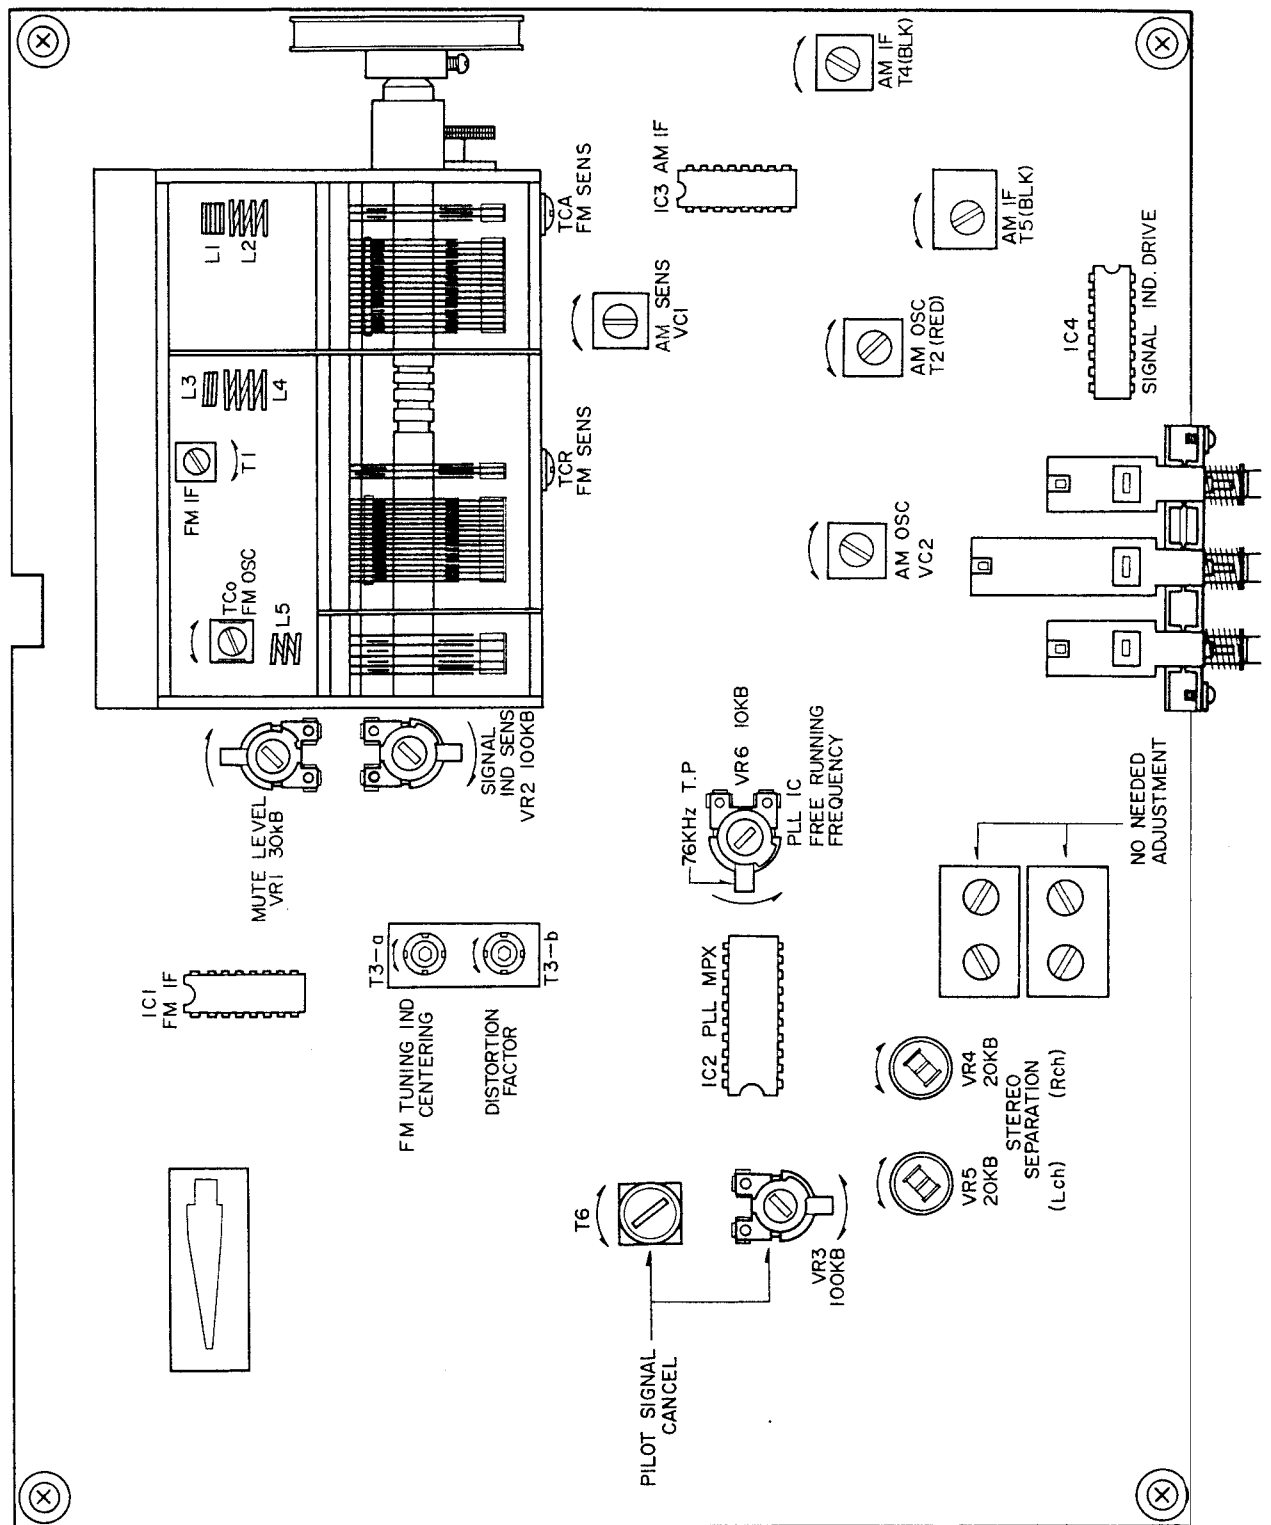

Fig. 5 Tuner P.C Board ATK-2001A
1. FM TUNER SECTION ADJUSTMENT (Refer to Figs. 5, 6)
2. AM TUNER SECTION ADJUSTMENT (Refer to Figs. 5, 7)